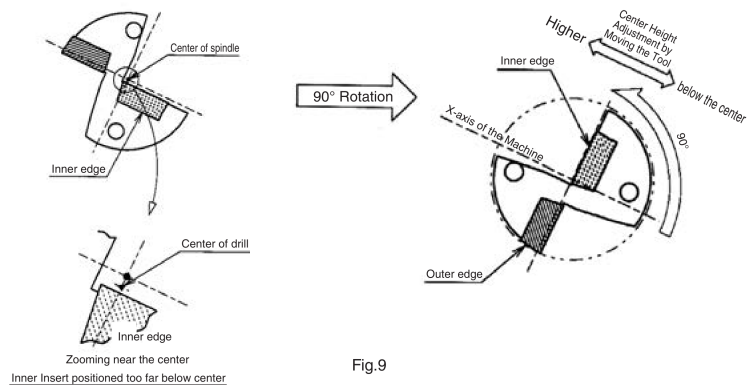

Fig.9
- If the core diameter becomes too large after the above adjustment, install the drill by rotating 90° counter-clockwise as shown in Fig.9 (outer insert is positioned lower) and adjust the center height by moving the tool in the X-axis direction. (However, this makes it impossible to adjust the drill diameter)